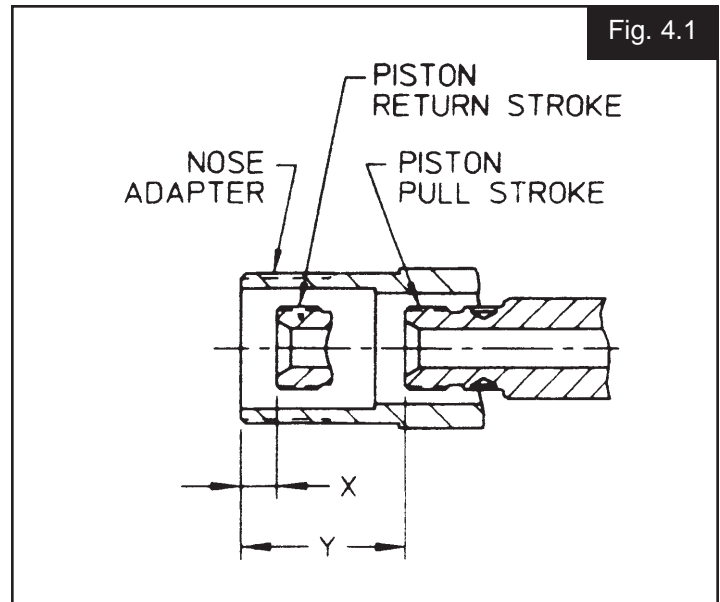

Fig. 4.1
2. With piston fully forward (end of RETURN stroke), measure and record "X" dimension - - see *FIGURE 4.1*.